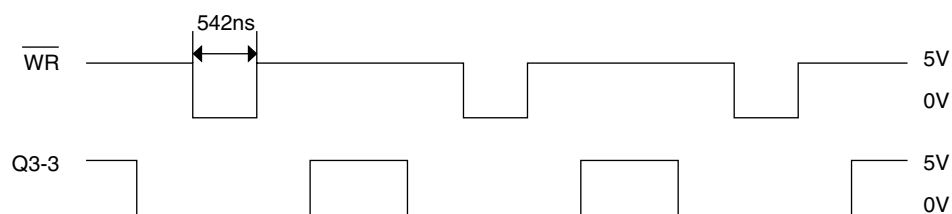

Figure B-3-5
• Yes Are, $\overline{WR}$, and BUS signals of Q3 pin 3 as specified in Figure B-3-5?
• Yes Is 4 pin of Q6 identical to $\overline{WR}$ signal in Figure B-3-5?